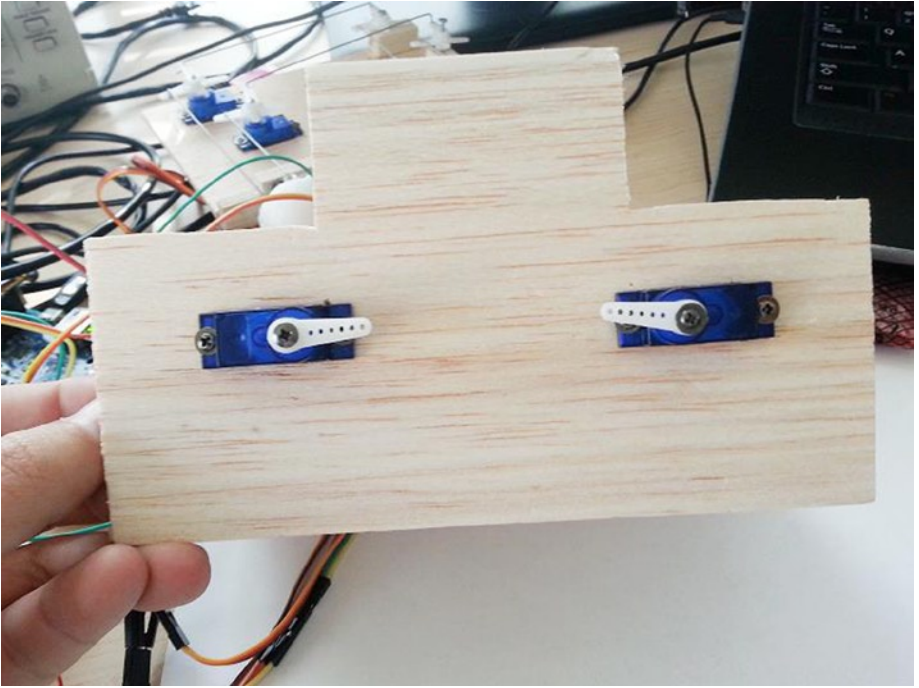
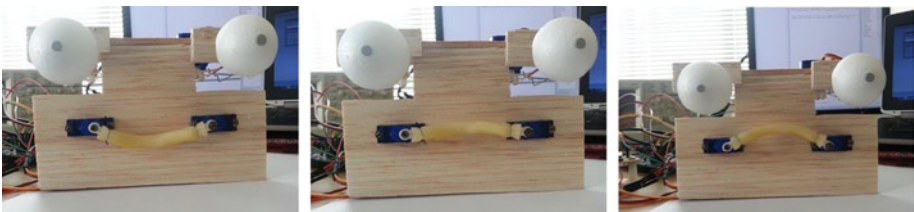

Figure 13-24. *Placing the servos in the mouth frame*
Figure 13-26. The final mounting with all three emotional expressions
After they have been adjusted to 90 degrees, place the servos so that the shafts are toward the centers and connect the accessories, as shown in Figure 13-24.
Place the animatronic eyes at top of the mouth frame and hot glue and you are done. Figure 13-26 shows the final mounting with all the expressions.
- **The mouth:** Two servos are used to control the mouth in a very simple way. When the servos are at 90 degrees, the expression is serious. When they raise 30 degrees, the mouth forms a sad expression. If they move down 30 degrees, the mouth looks happy. The software is very simple; you just attach the servos and move them as you learned in Chapter 4. The only trick is that when one servo moves, the other one must have the inverse movement in order to synchronize the lips, as shown in Figure 13-26. This is due to the position of servos having the shafts pointing to each other, as shown in Figure 13-24.